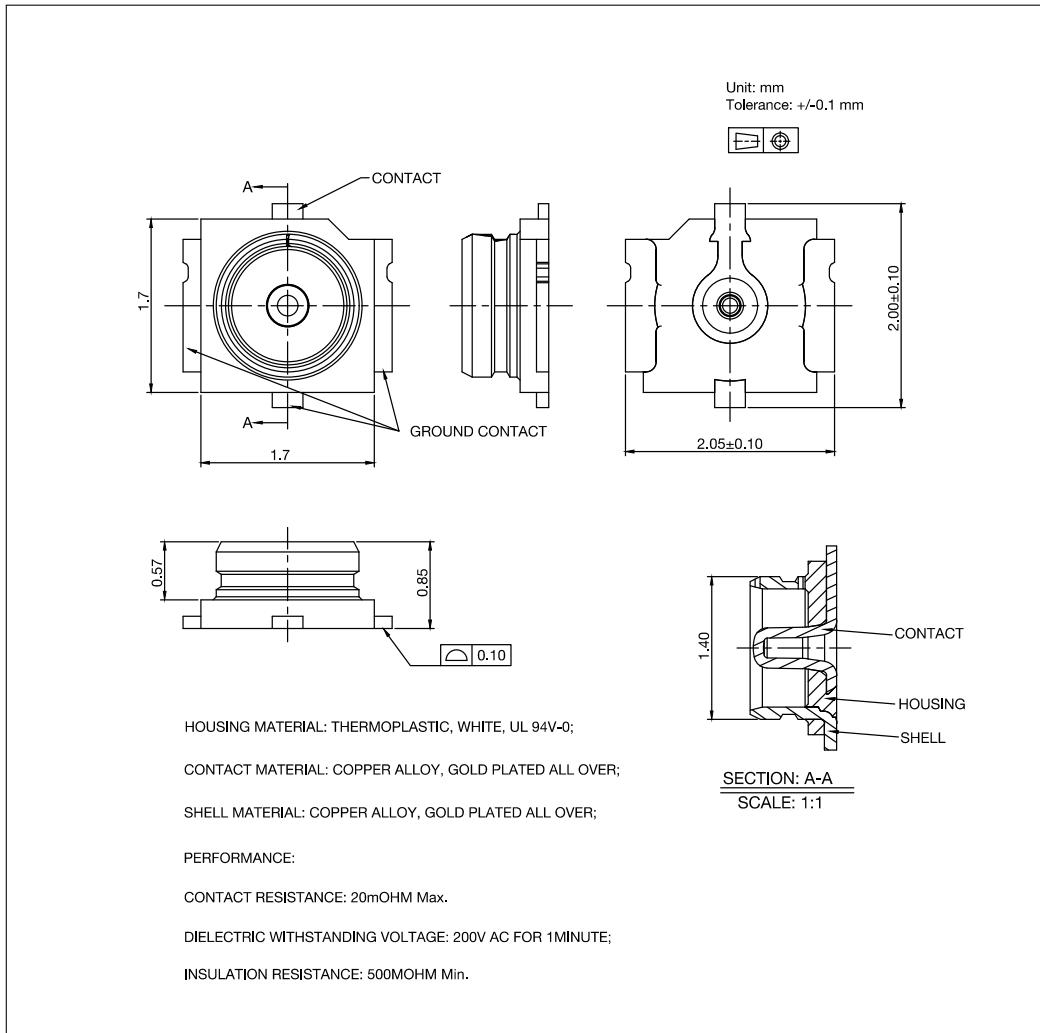

Figure 10-3. Dimensions of External Antenna Connector
ESP32-S3-MINI-1U uses the third generation external antenna connector as shown in Figure 10-3 *Dimensions of External Antenna Connector*. This connector is compatible with the following connectors:
- The connector matches the specifications shown in Figure 10-3 *Dimensions of External Antenna Connector*